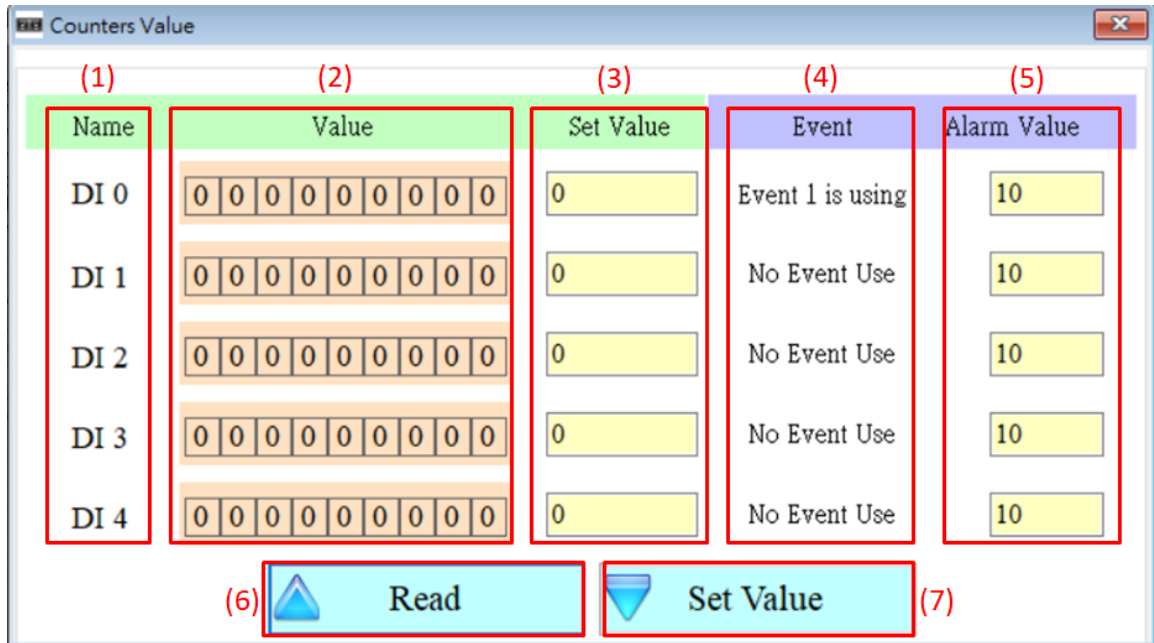

Figure 5.1.5
D. Set the counter parameters, as shown in Figure 5.1.5
- (1) Counter name, Counter0~Counter4 corresponds to DI0~DO4.
- (2) Counter current count value.
- (3) Set the current value of the counter.
- (4) Counter usage status.
- (5)The value of the counter trigger alarm, which must be greater than the value of Set Value by more than 10.
- (6)Read the current status of Device Counters.
- (7)Write Counters to Device.